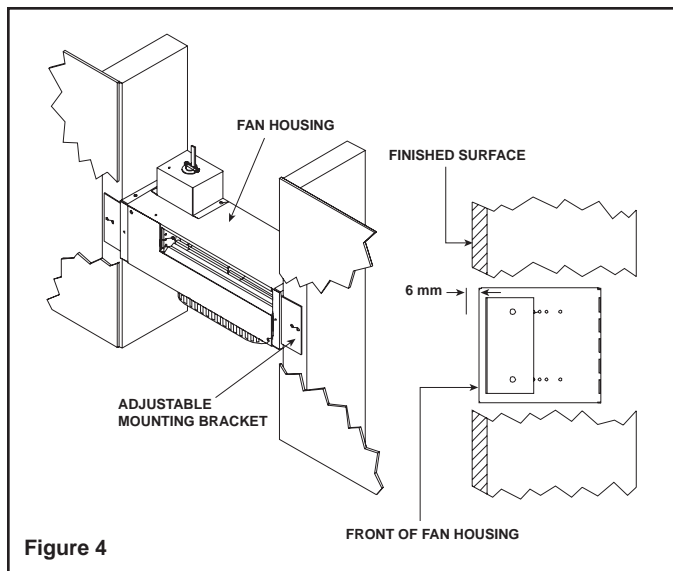

Figure 4
- Mount and secure the fan housing assembly to framing members so the front surface is 6 mm below the finished wall or floor surface. Use the adjustable mounting brackets and screws provided in the kit. See Figure 4.